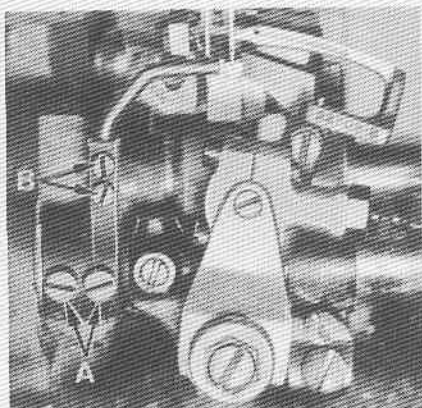

Fig. 13
Set the front needle guard so that it pushes the left needle back toward the path of the looper as it moves behind the needle. The looper may brush but not pick at the left needle. It should be set as low as possible, yet have its vertical face push the left needle until the point of the looper is just past the left side of the left needle. The front needle guard should not contact the rear needle guard or right needle at any time. To move guard forward or backward, merely loosen screws (A, Fig. 13) move needle guard as required and retighten screws. To raise, lower or rotate needle guard, loosen screws (B), move guard and retighten screws after guard is properly set.